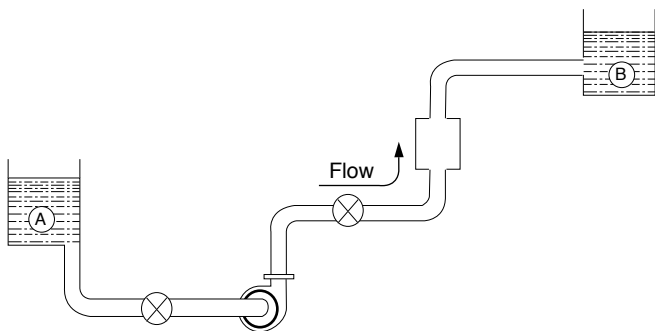

FIGURE 52. Simple Pump System with a Difference in Elevation
- Another factor can be introduced to complicate the above system; the same system is used, but Point B can be higher in elevation than Point A (Figure 52).